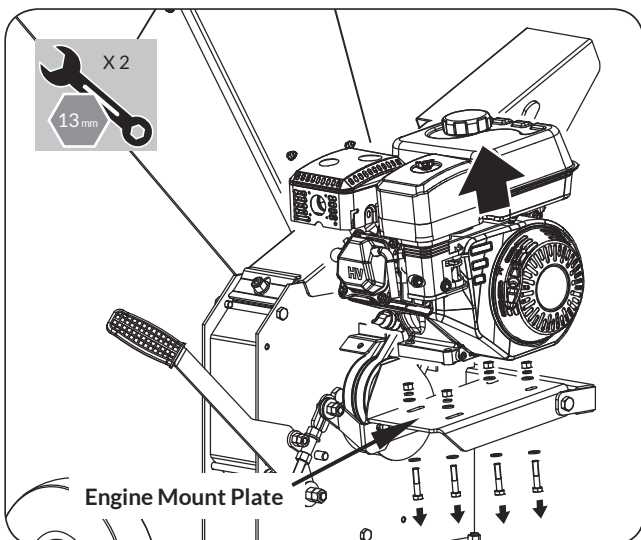

Figure 27
4. Remove the four engine mounting bolts that secure the engine to the engine base and slide the engine downward until the engine pulley is disengaged from the belt. Remove engine from engine plate and place on the side of unit. (See **Figure 27**)